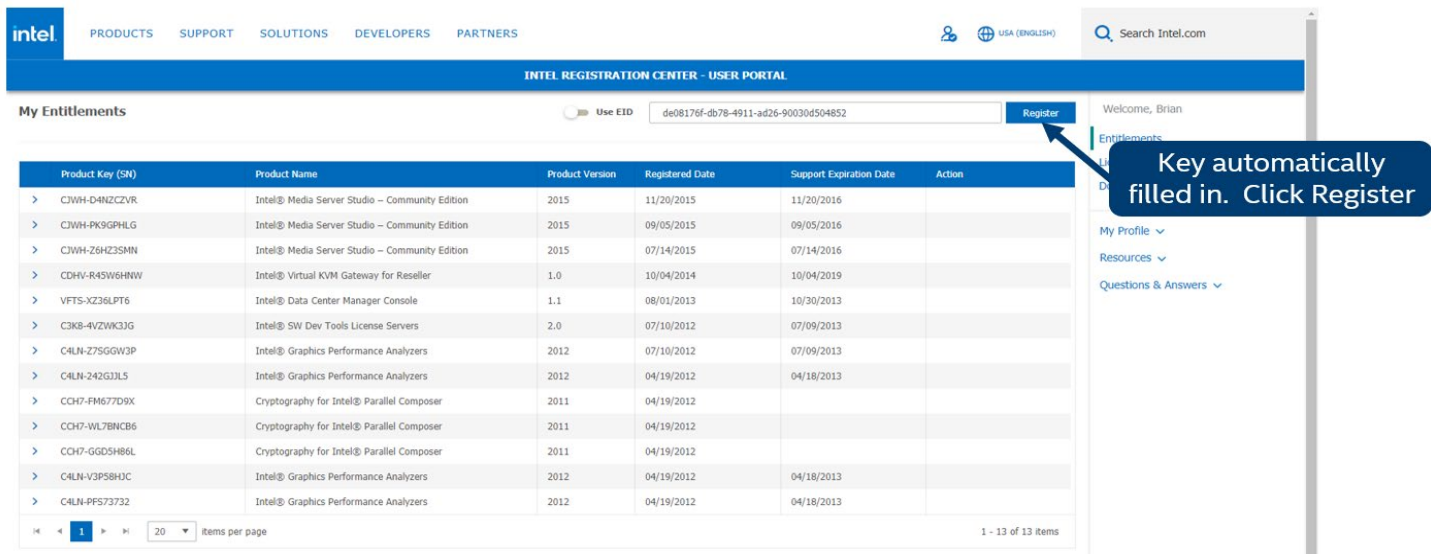

Figure 53. Register Key
- On the Registration Screen, Click the “Register” button to register the pre-entered license key number (see Figure 53)